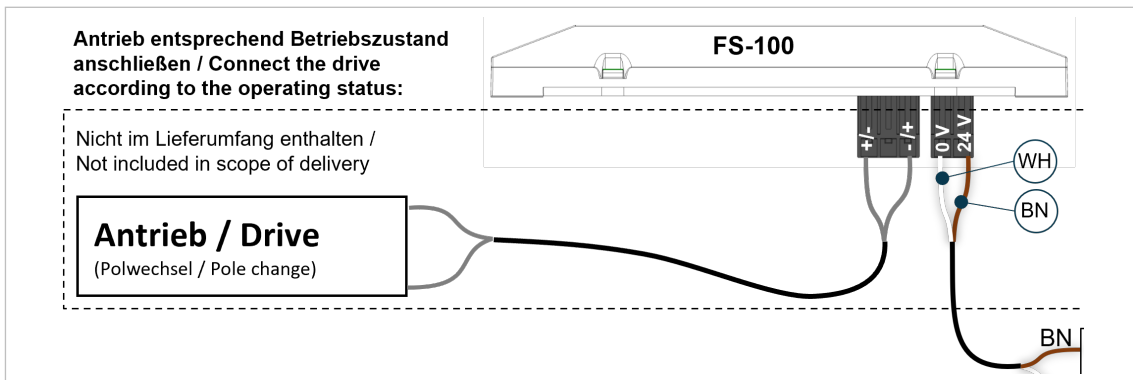

Abb. 11: Connection diagram FS-100 (pole change)
- Insulate the conductors of the drive connection line up to a suitable length and connect them to the "OUT" terminal on the **FS-100** (fig. 11) based on the operating status as shown in the connection diagram.